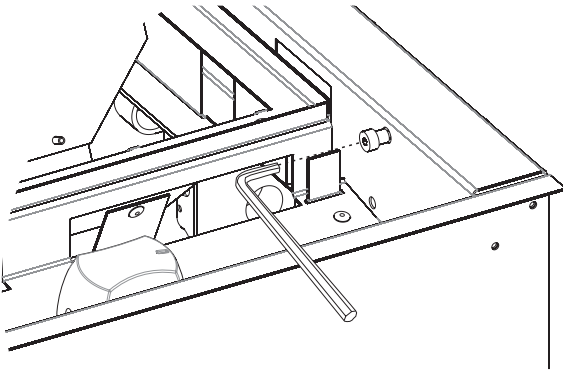

Figure 24
- b. Remove the (4) filler strips (Index No.'s 31 and 32 illustrated on page 29), by simply lifting them up from the burner tray.
- c. Remove the two control door pivot bolts using a 1/8-inch hex allen wrench. **See Figure 24.**
4. Reinstall the pivot bolts removed in **Figure 24** and reinstall the control door.